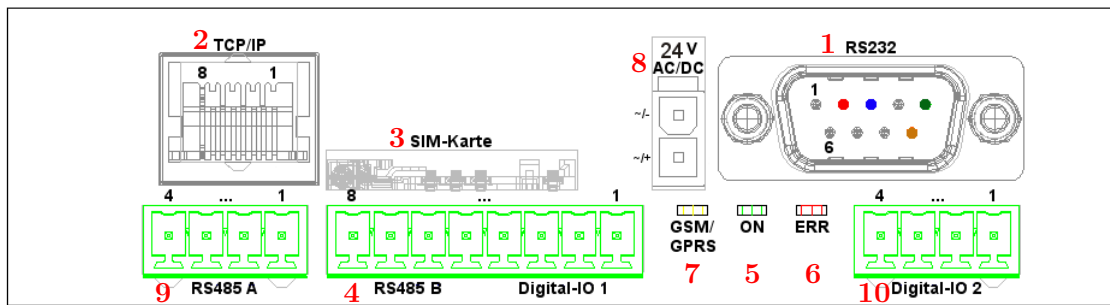

Figure 8: Steckerleiste des ZK-MasterIV ab HW V 2.0
The power supply for the ZK-MasterIV (HW V 1.4) is connected to the Datafox device power supply unit 12 V 3 A DC via the 8 pole strip terminal, position (4) in figure 7. From HW V 2.0 on the terminal is supplied with power (24 V 300 mA power supply unit) via the Molex connector (8) in figure 8.